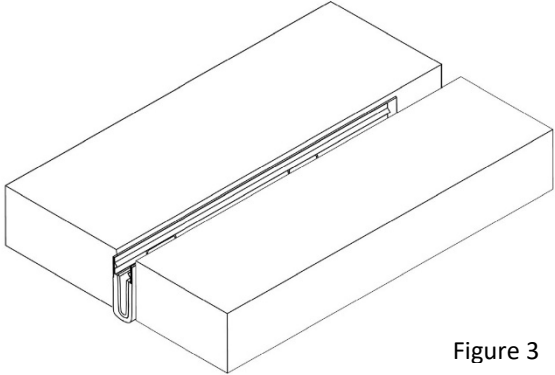

Figure 3
3. With the male end at the starting point of the installation; insert barrier into expansion joint. If starting at an exterior wall, ensure the male end of the stick covers the total wall depth, *figure 3*.
4. While holding the aluminum frame on one side, cut the zip ties starting on one end working towards the other end, *figure 3*.